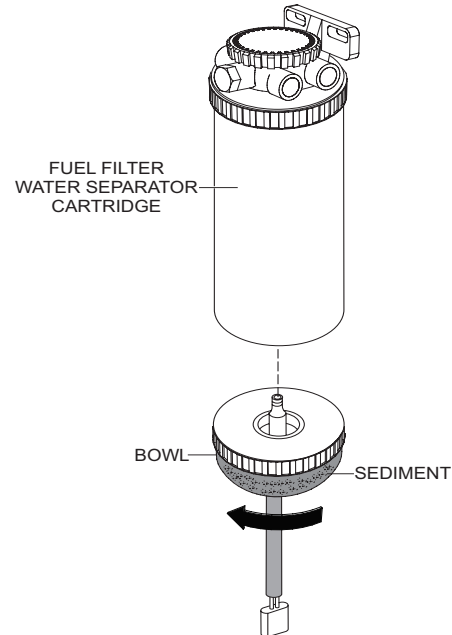

Figure 65. Sediment Bowl
1. Remove the sediment bowl from the fuel water separator cartridge as shown in Figure 65.